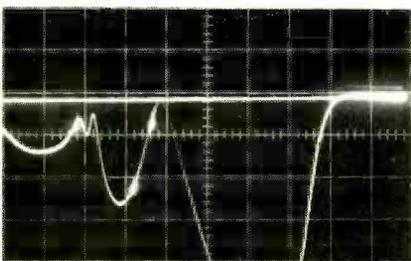

FIG. 8—41.25-MHz sound trap is out of adjustment if it produces this waveform.
**3. Turn on the 47.25-MHz marker switch**, then follow the same procedure to align the adjacent-channel sound trap. If the set has one, adjust the 39.75-MHz adjacent picture trap. Align it to the manufacturer's specs. Fig. 7-b is a typical response curve. The response curve in Fig. 8 indicates that the 41.25-MHz sound trap is out of adjust-